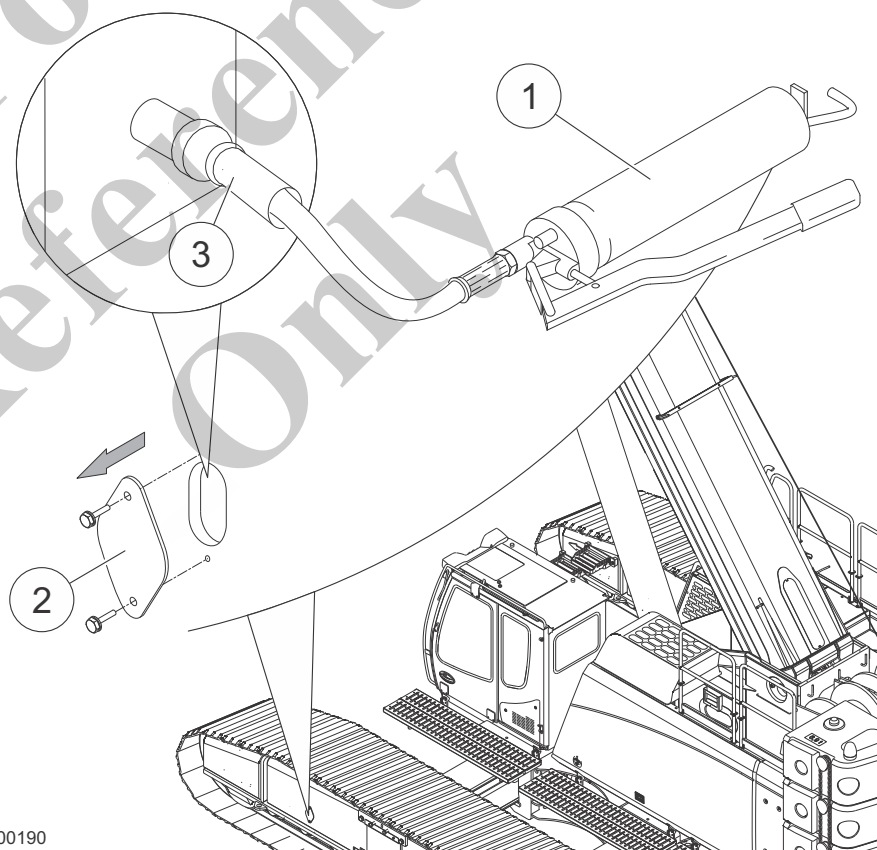

Fig. 27 Adjusting track tension
2	Prepare the grease gun (1) in Fig. 27.
3	Remove screws and covers (2) in Fig. 27.
4	Feed connection hose (3) in Fig. 27 into the lubricating valve.